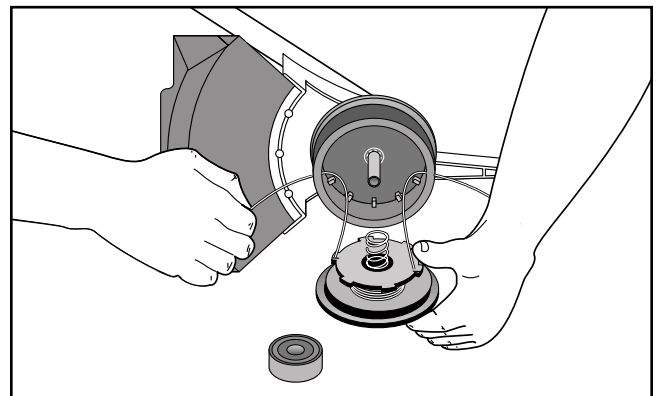

Fig. 33
1. Insert the ends of the line through the eyelets in the outer spool (Fig. 33). Place the inner reel into the outer spool. Grasp the ends and pull firmly to release the line from the holding slots in the spool.